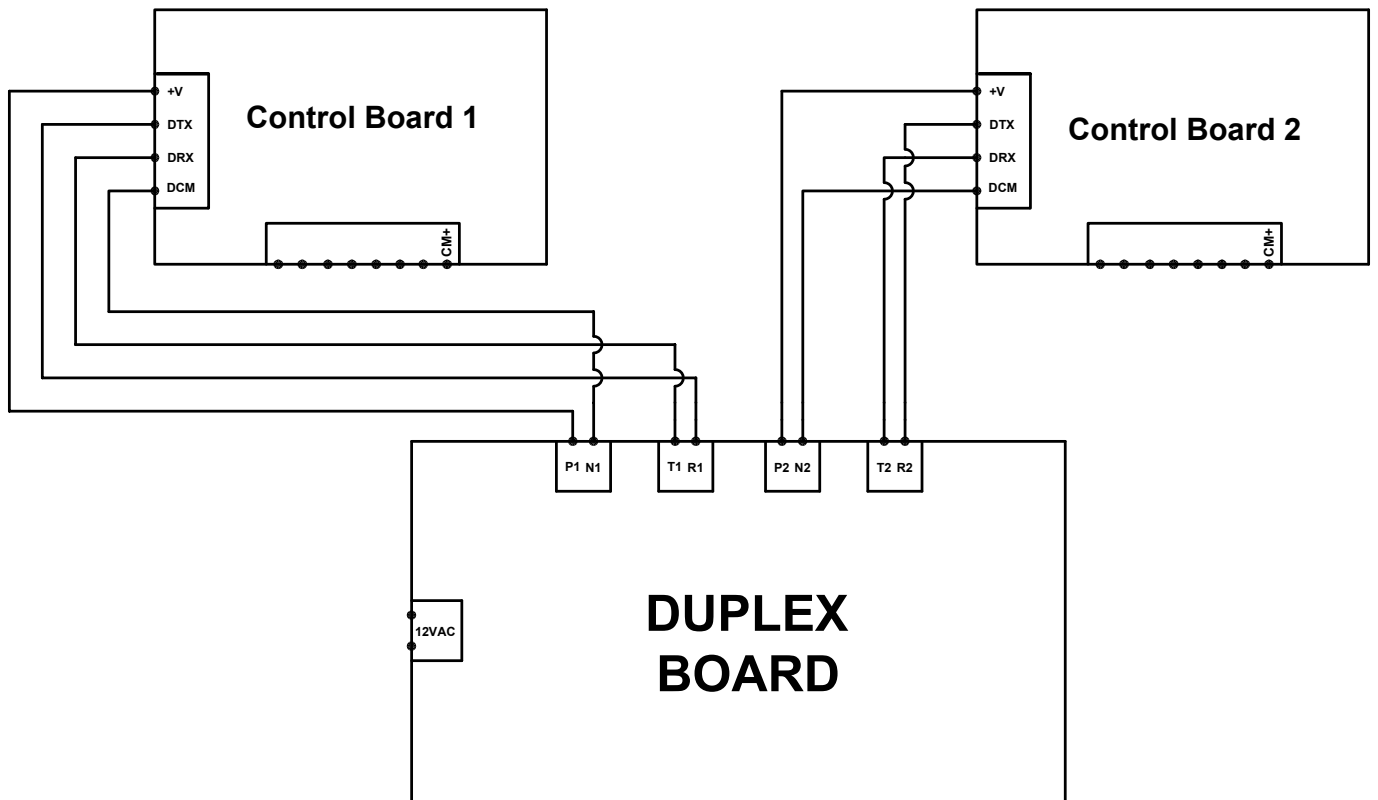

Figure 5.0 - XC-DUP and Control Boards Connections
The terminals for the Duplex Communication are connected as illustrated in Figure 5.0.
- Figure 5.0 illustrates the connection of the XC-DUP series with the associated control boards from the duplex connection socket.